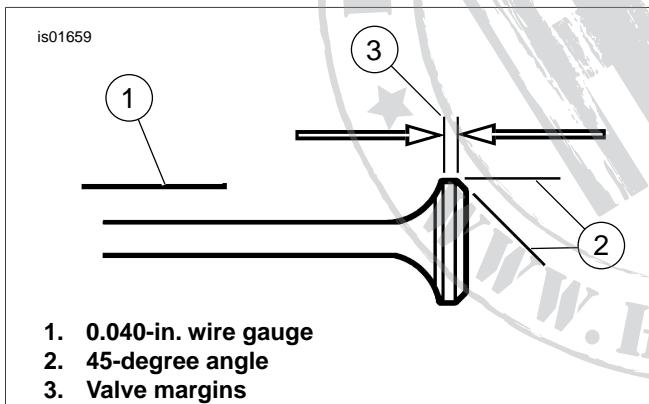

Figure 1. Beveling Valve Heads
See Figure 1. If it is necessary after inspection to grind the intake and exhaust valves in order to meet the 0.040-inch (1.016 mm) clearance between the two valve heads, the margins (3) must be measured as follows: 0.031-inch (0.787 mm) minimum margin on exhaust valves and 0.015-inch (0.381 mm) minimum margin on intake valves.
2. A 0.040-inch (1.016 mm) clearance is required between the two valve heads. Use a 0.040-inch wire gauge (1) to measure this. To adjust the clearance, grind the edges of the intake and exhaust valves at a 45-degree angle (2).